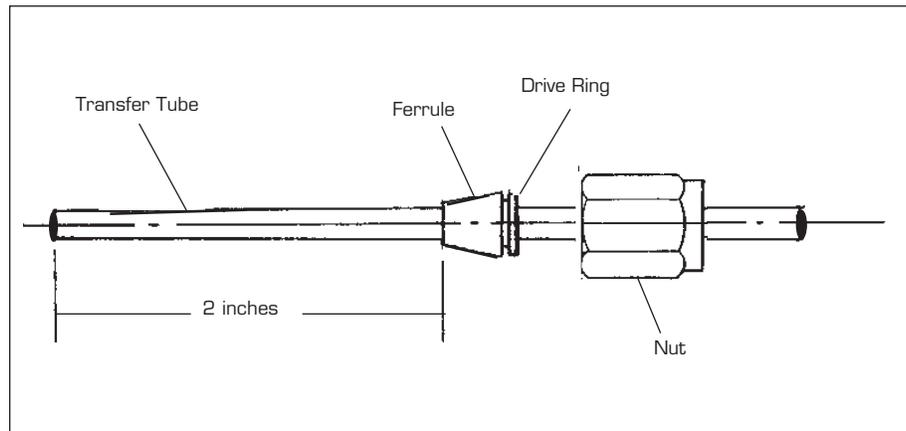

Figure D.8
2. Swage the ferrule, then cut the end of the transfer tube off so that two inches of the tube projects beyond the ferrule. See Figure D.8 below